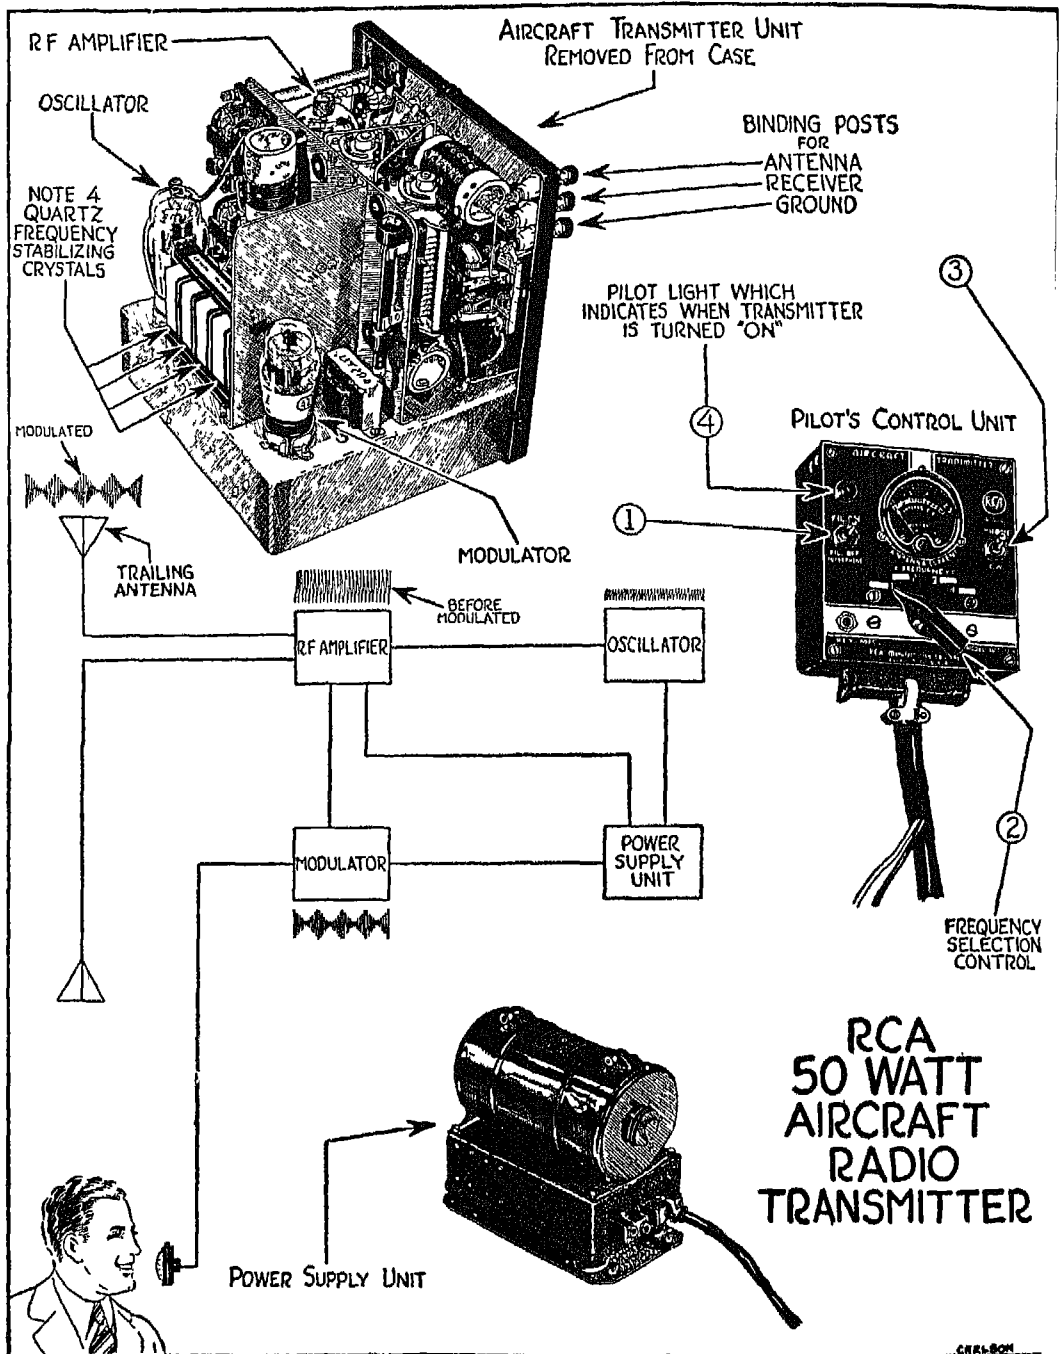
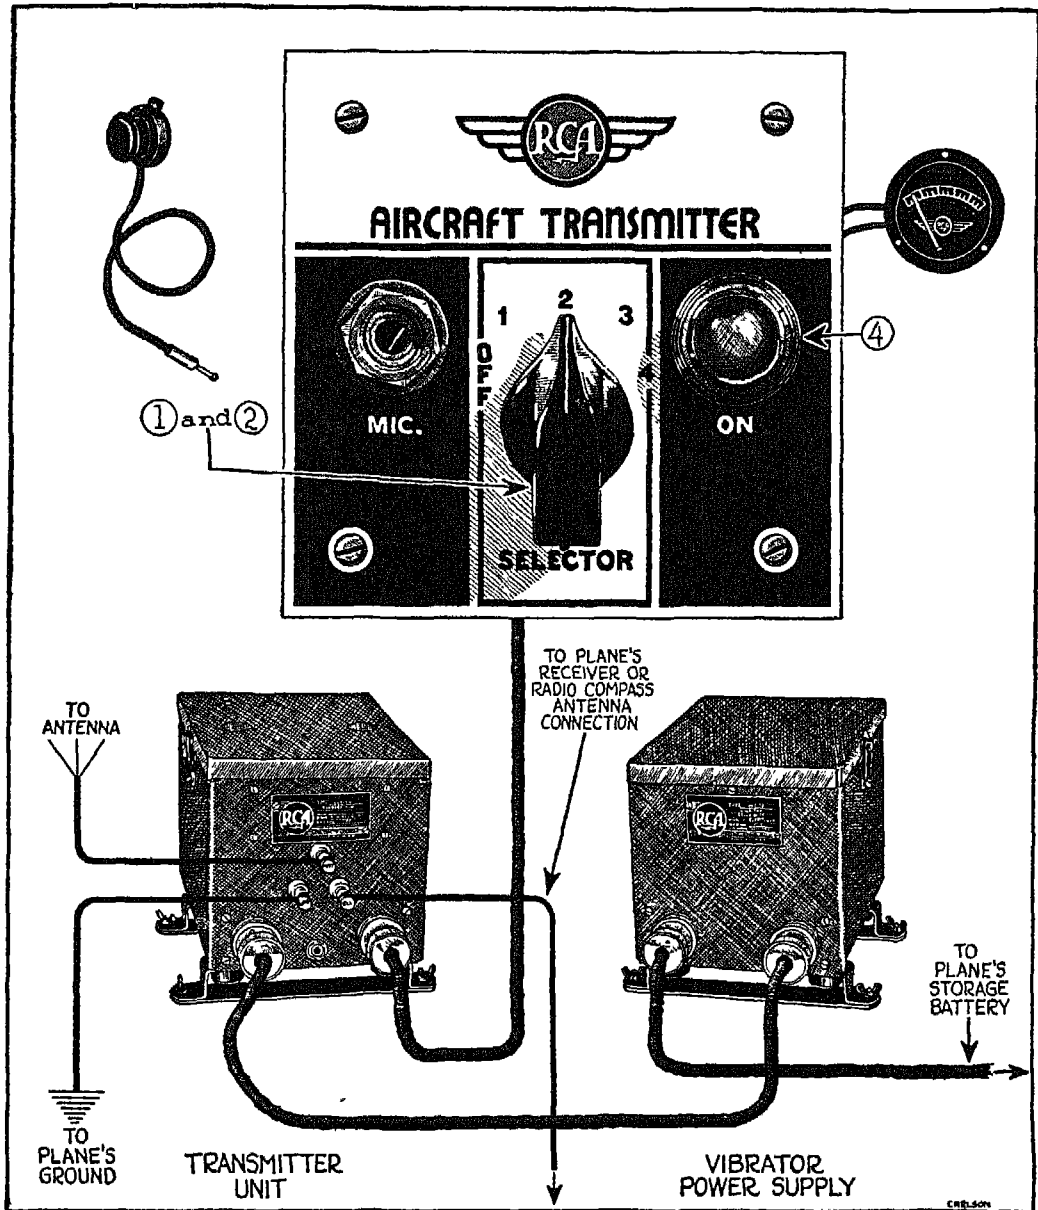

FIG. 240
FIG. 241
FIG. 240. Offhand, this illustration will probably give you the idea that a transmitter is much more complicated than a receiver or radiocompass. Actually, the transmitter is the simplest of the three instruments to operate; it only looks more complicated here because I have taken you behind the scenes.
FIG. 241. A 20-watt transmitter such as the one shown here has its filament control switch (1) and selector switch (2) combined, and is operated in the same way as the 50-watt transmitter except that it is not equipped with an emission control switch (No. 3 in Fig. 240) for telegraphic-key operation. There is very little difference in the range of a 20-watt and the range of a 50-watt transmitter when both are operated on an efficient antenna, but the increased power output of the latter makes it more reliable during adverse weather conditions.